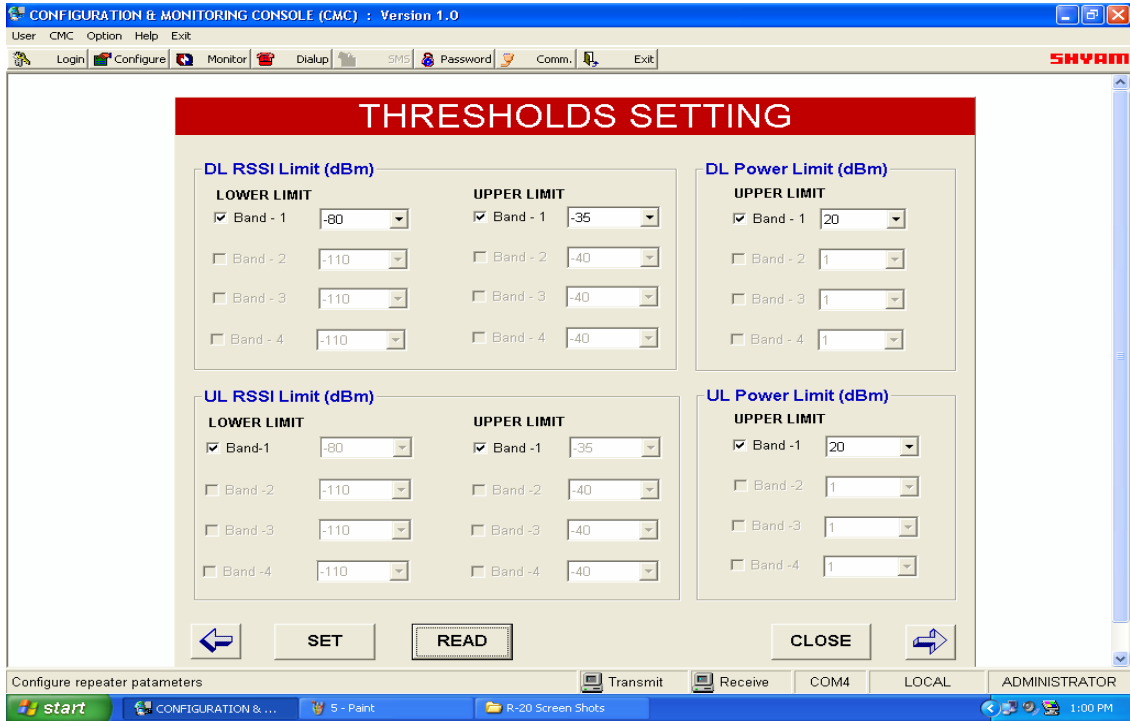

Figure 9: Threshold Settings
f) RSSI Limits (Figure 9)
g) PA Power Limits (Figure 9)